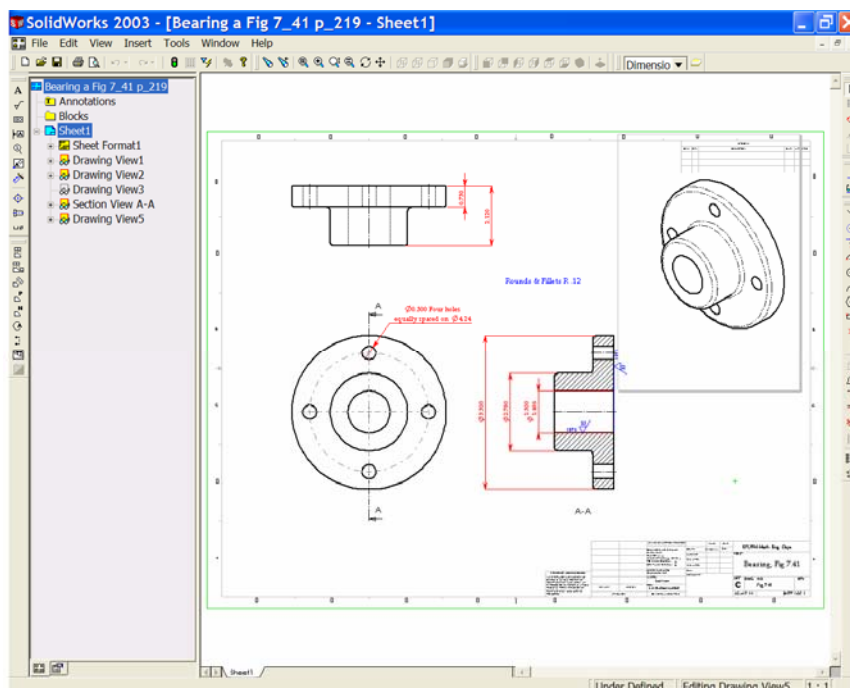

Figure 13
20. To complete the drawing add a pictorial view of the part showing tangent edges 'with font'. See figure 13.